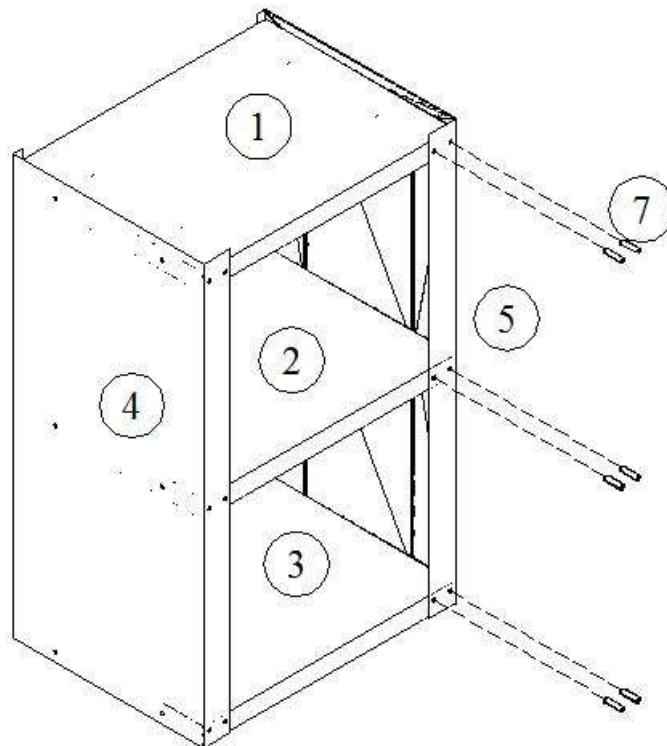

Figure 4
Attach 6 of the sheet metal screws (7) for front portion of right side panel (5). As shown in Figure 4